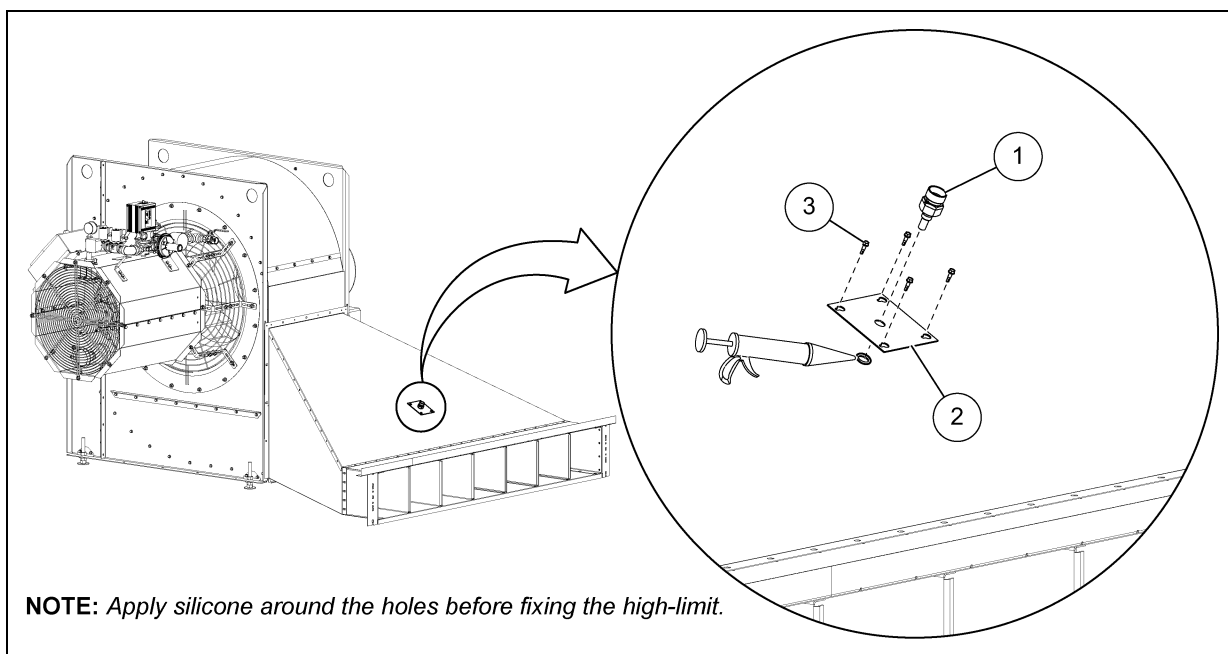

Figure 4G Transition High-Limit
3. Place transition high-limit (1) and attached with self-drilling screws (3). (See Figure 4G.)